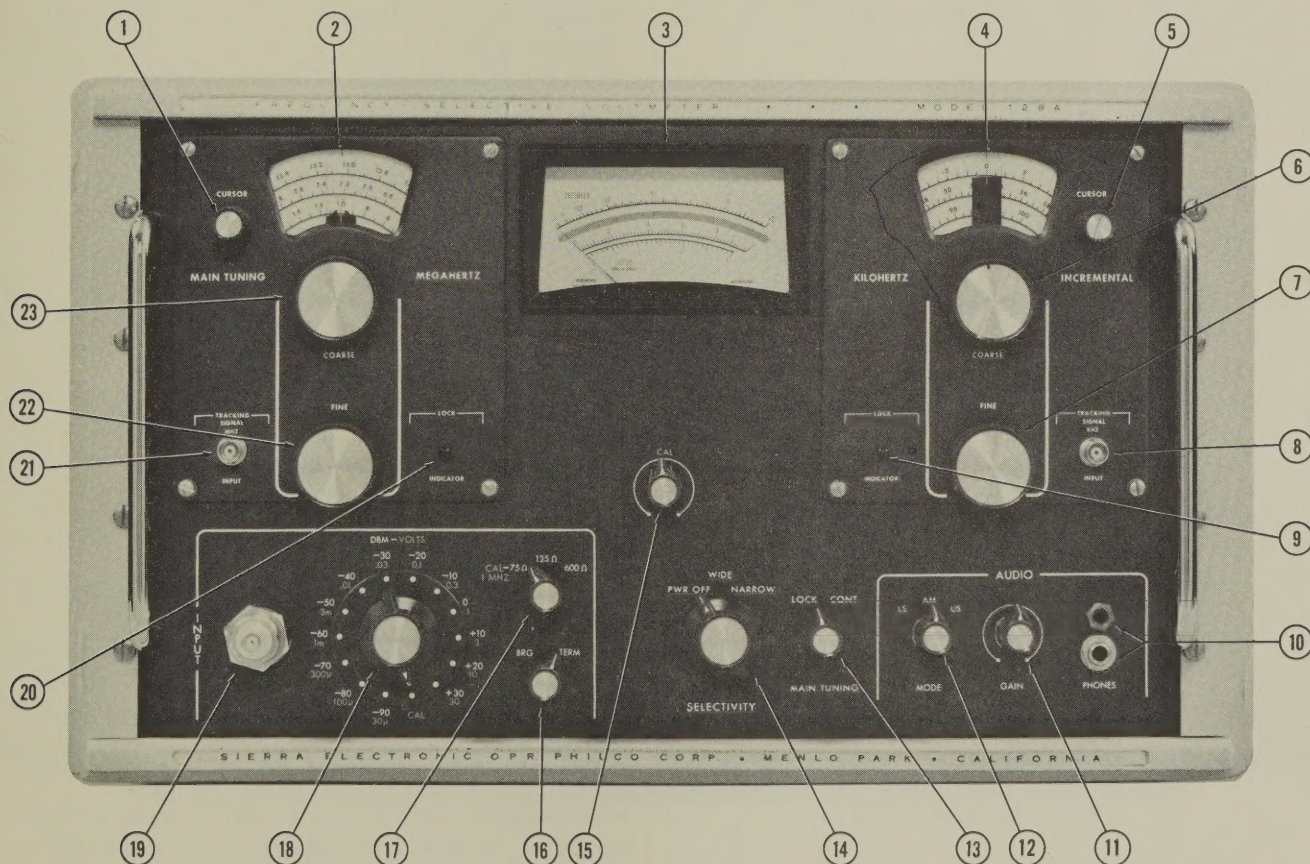
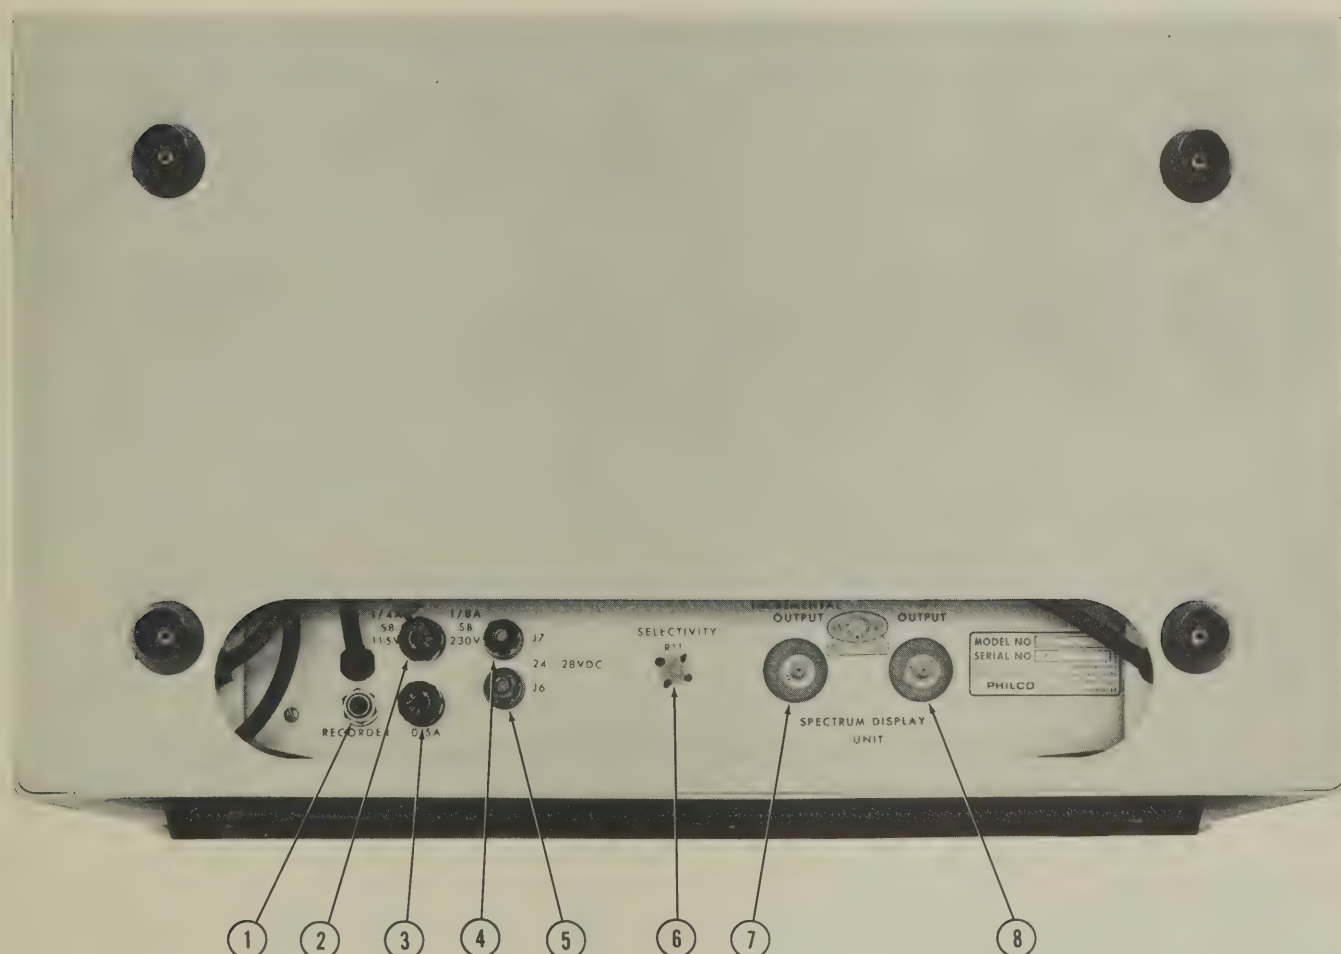

Figure 2-1. Sierra 128A Front Panel Controls and Indicators
Figure 2-2. Sierra 128A Rear Panel Connectors and Fuses
**2.03** Front panel controls and indicators are shown in Figure 2-1 and identified in Table 2-1. Rear panel connectors and fuses are shown in Figure 2-2 and identified in Table 2-2.